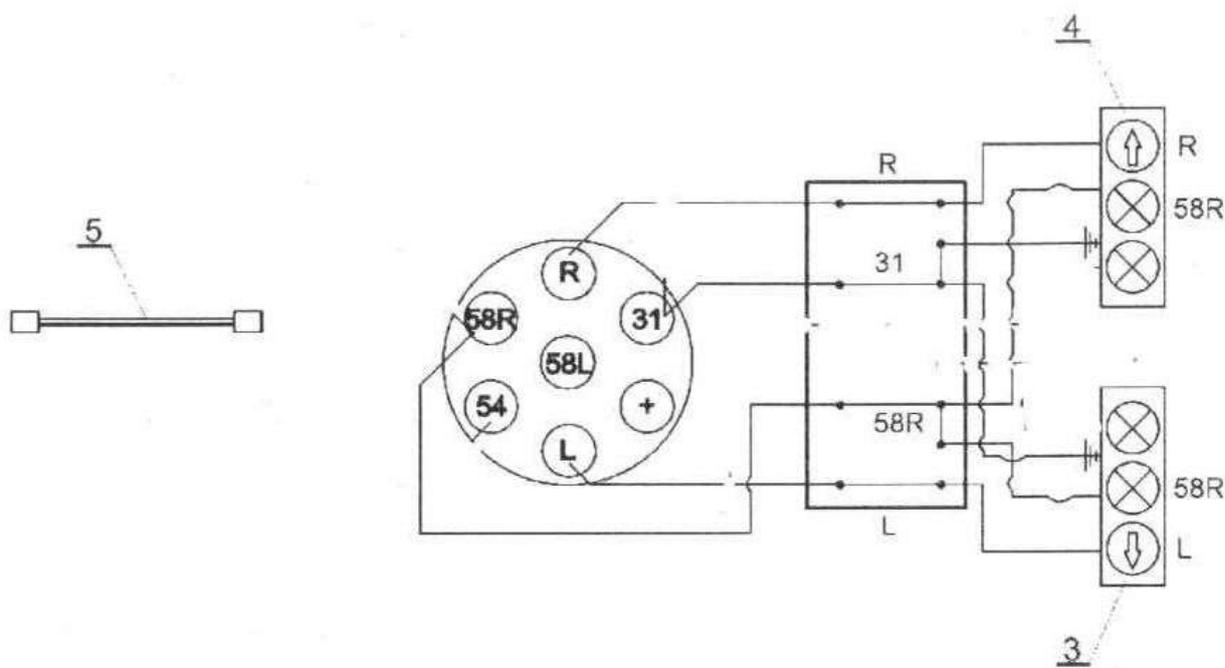

Fig.21 Lighting installation wiring diagram
The electrical installation in the USF-1600 seeder is of fixed type, provided with two front composite lamps. A connection cable (5) is used to connect the installation with the tractor installation. The installation diagram is connected according to Fig.21. Before leaving for highways, check the correctness of the electrical installation every time.